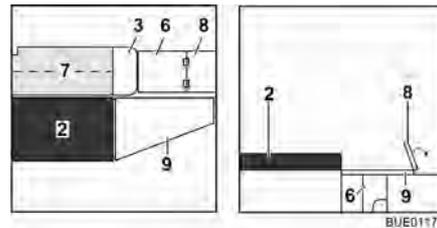

Fig. 122 During conversion
- Pull out the bedding box extension (Fig. 122,6).
- Fold the seat base extension (Fig. 122,8) outwards.
- Unfold the additional cushion (Fig. 122,7) and lay it on the table.
- Hook the bed widening (Fig. 122,9) into the recesses on the bench seats.